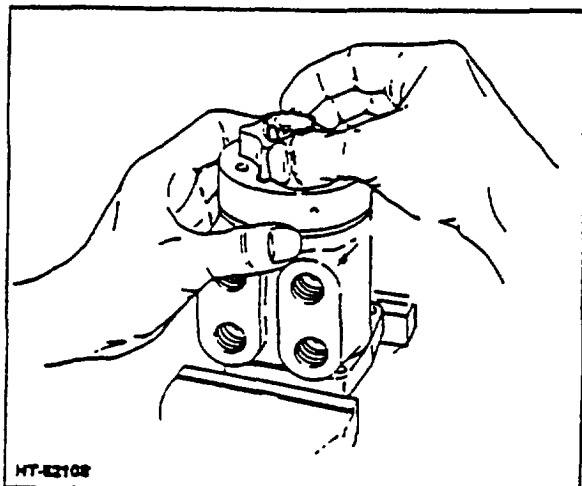

Figure 27. Installing Meter Gear Star
20. Install the splined end of the drive into the meter gear star so the slot at the control end of the drive is aligned with the valleys between the meter gear teeth (Fig. 27).